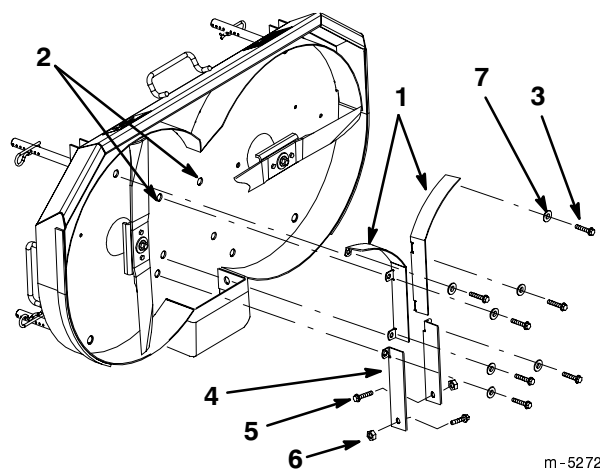

Figure 41
2. Remove screws, washers, left and right bagger baffles locknuts, carriage bolts, and left and right discharge baffles from the mower (Fig. 41).
Important All bagging and discharge baffles must be removed when mulching (Fig. 41).
- Position the left and right front bagger baffles inside the mower and secure with screws into the retainer nuts (Fig. 41).
- Position the left and right rear discharge baffles inside the mower. Secure with screws and washers through the bottom and carriage bolts inside of mower rear discharge. Secure carriage bolts with locknuts (Fig. 41).